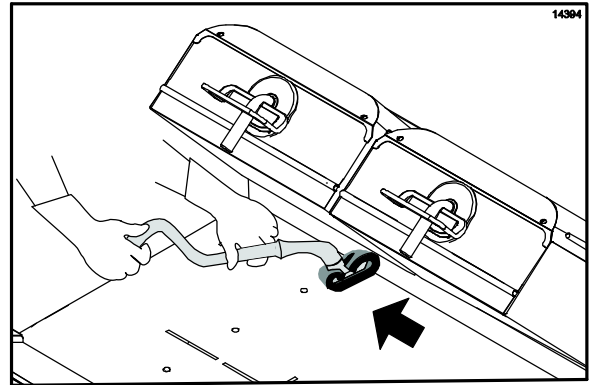

Figure 82
- Apply the grill cleaner to the back side of the platens, from the right platen to the left platen. (See Figure 82.)